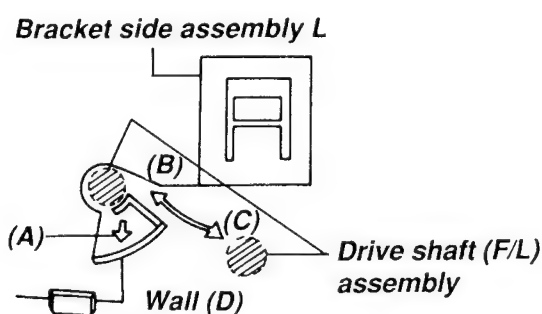

Fig. 4-1-17
5. Remove the back-up plate side from the bracket side assembly L. (Refer to item "(4) Door lever replacement 2.").
6. Remove the door lever and then arm gear L from the bracket side assembly L. (Refer to item "(4) Door lever replacement" and "(5) Arm gear L replacement".)
7. Remove the drive shaft (F/L) assembly from the bracket side assembly L in the direction of the arrow (C). (This can be removed by bending the wall (D) in the direction (A).) (Refer to Fig. 4-1-17.)